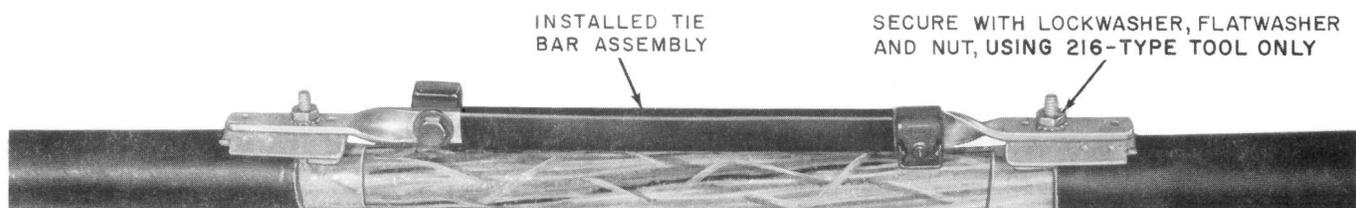

Fig. 6—Installed Tie Bar Assembly
3.04 Install and secure tie bar to studs of inner clamp using lockwasher, flat washer, and nut as shown in Fig. 6. *Tighten with 216-type tool o.ly.* This provides sheath continuity across sheath opening and mechanical rigidity.